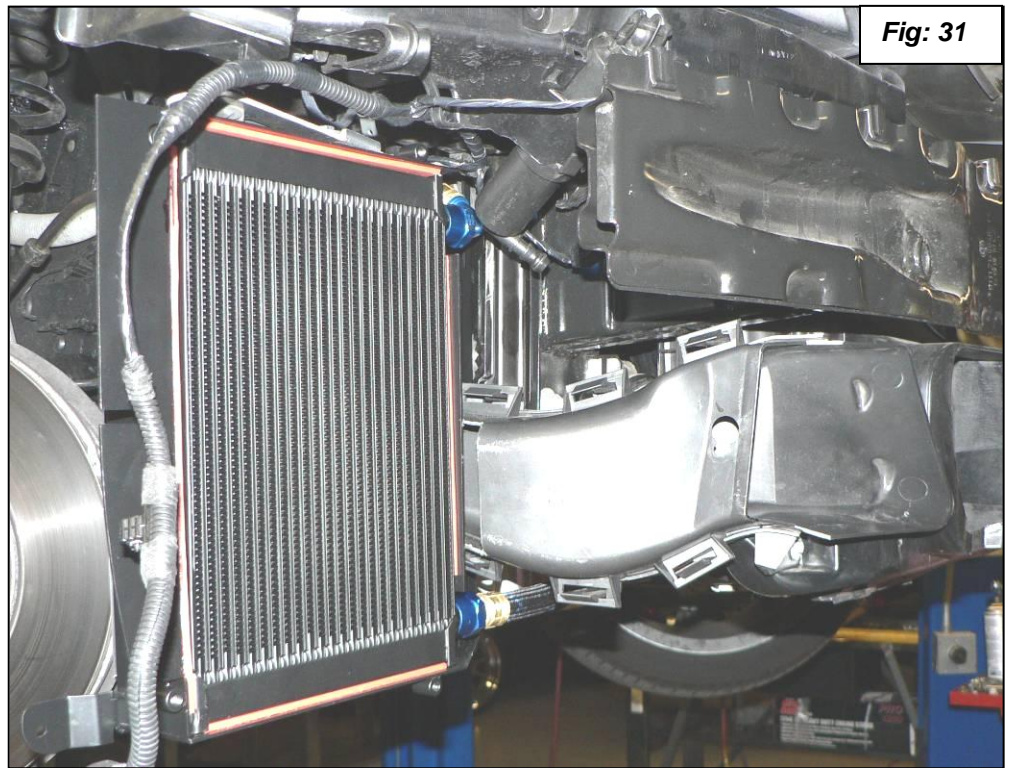

Fig: 31
32. Install the modified brake duct and check for clearance. With the oil cooler in a relaxed position you should have about $\frac{1}{2}$ " clearance as shown in figure 31.